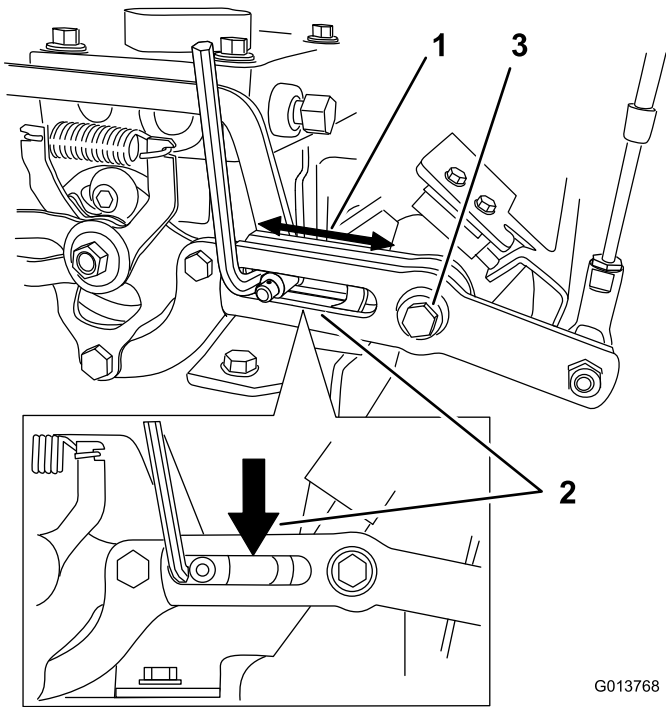

Figure 12
- 8. While pulling the control fork assembly rearward (not so hard that the speed control linkage moves) tighten the screw that goes through the center of the left hand shoulder hub (Figure 12).